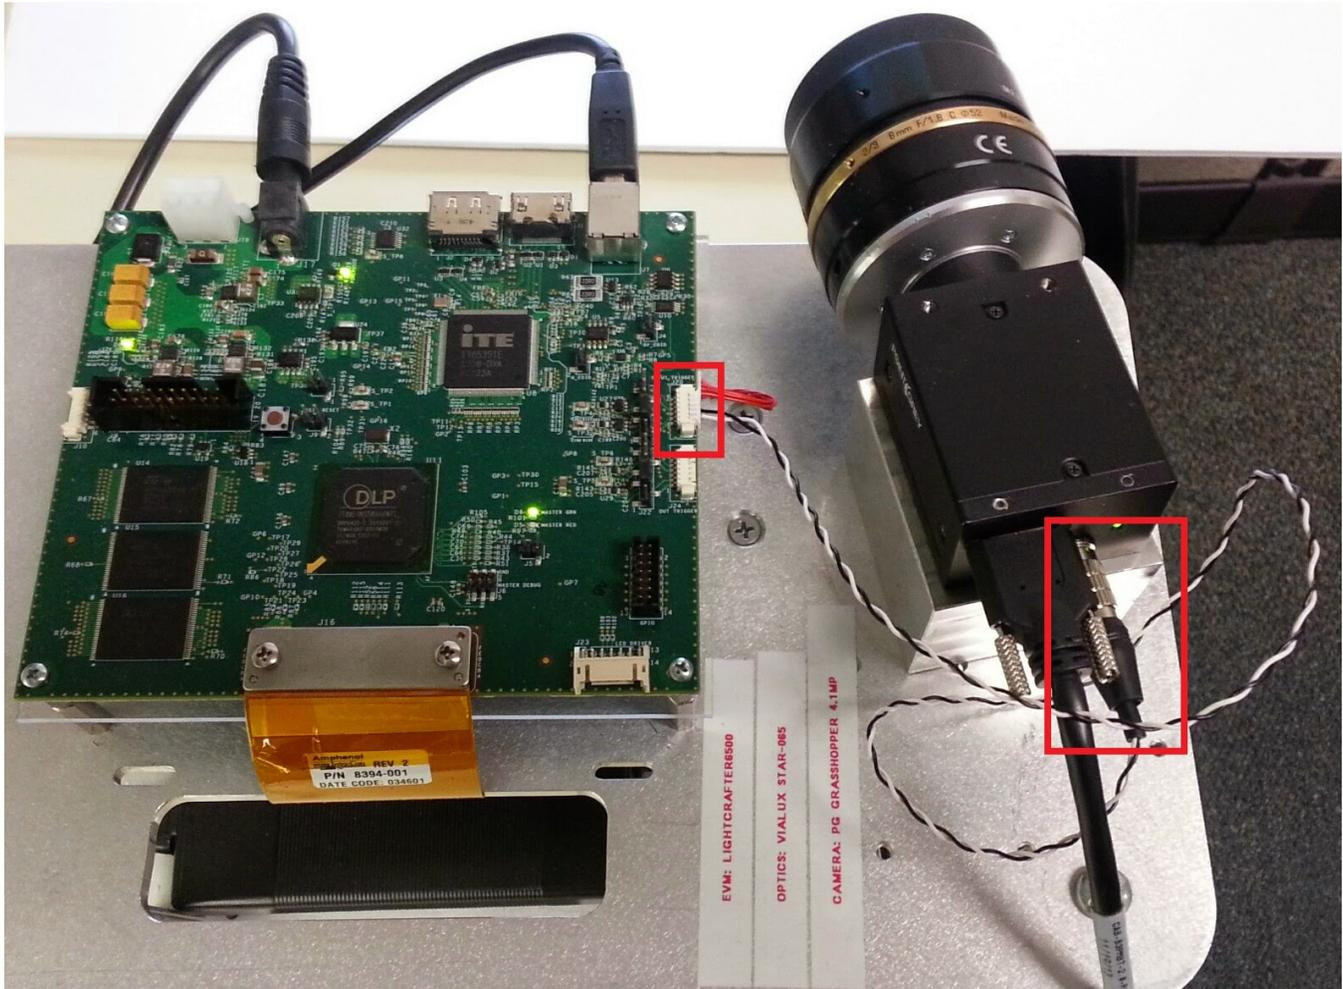

Figure 3-8. Connecting the Camera to the Host PC
1. Connect the GPIO output trigger from the camera to the projector's input trigger, using the cable detailed in the file "TIDA-00362-CAMERA_TRIGGER_CABLE_ASSEMBLY.pdf", as shown in Figure 3-8.